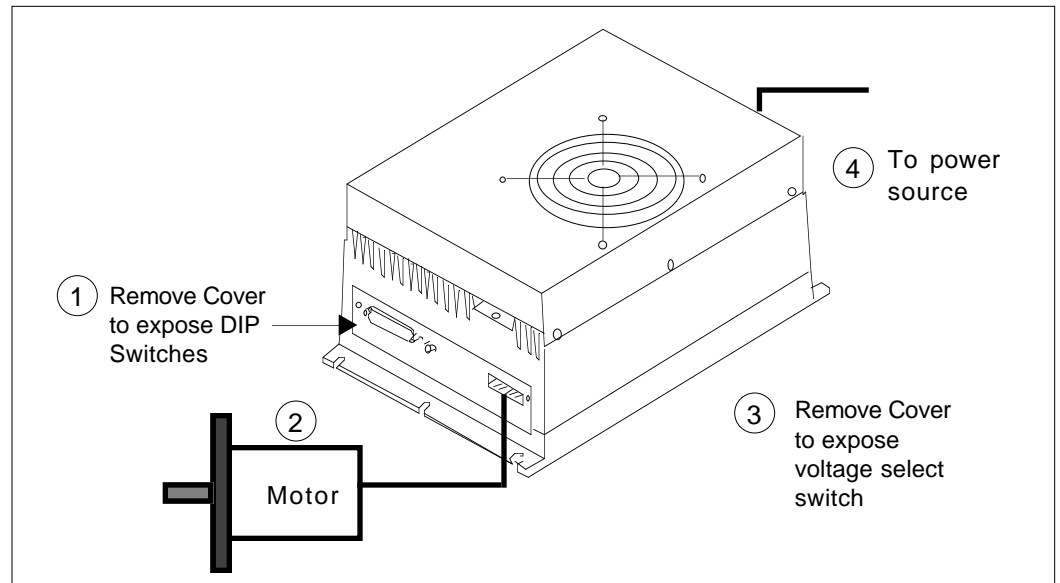

Figure 2-4. Test Configuration
**The LN Drive motor is pre-wired in series.** Plug the pre-wired motor cable into the motor connector on the drive (refer to Figure 2-4). If you use a non-Compumotor motor, refer to *Chapter 3, Installation* for instructions on wiring the motor to the drive. **Do not connect the motor to the load at this time.**
- ① Plug the cable into the power connector on the drive (refer to Figure 2-4).
- ② Plug the other end of the cable into your voltage source. Observe that the fan is operating and the status LED is green. The motor should rotate CW and then CCW approximately 6 revolutions at 1 revolution per second (rps).
- ③ **To stop the motor, you must unplug the power cable from the power source.**